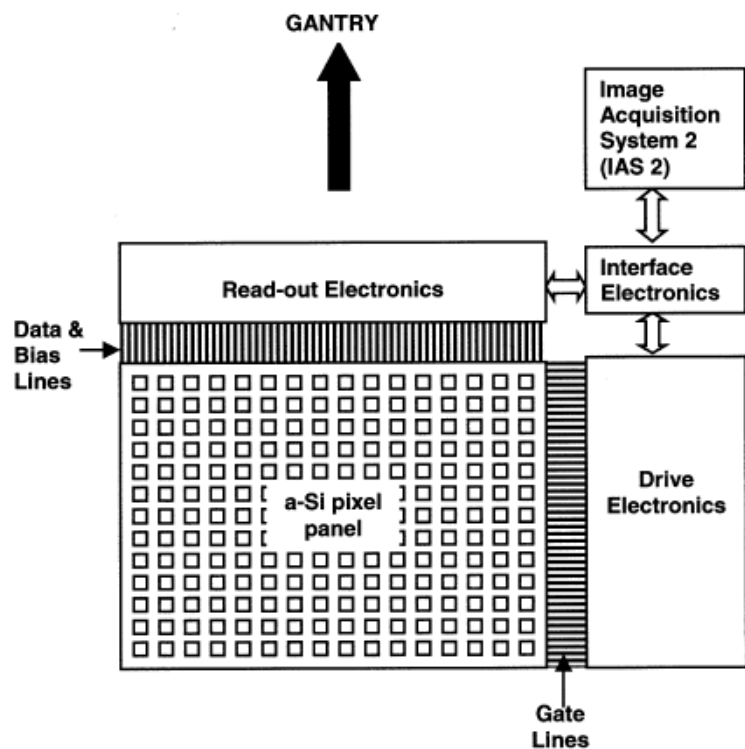

Fig. 1. Schematic drawing of the image detection unit (IDU) in the a-Si EPID.⁵
Fig. 1. (A) Apparatus used for the geometric calibration of the volumetric imaging system. (B) In the megavoltage stage, the position of the ball-bearing with respect to the treatment beam isocenter is assessed from portal image analysis. For the synergy system, the reconstruction software digitally corrects for the flex motions. For the OBI system, flex motions are compensated for by servos in the robotic arm.